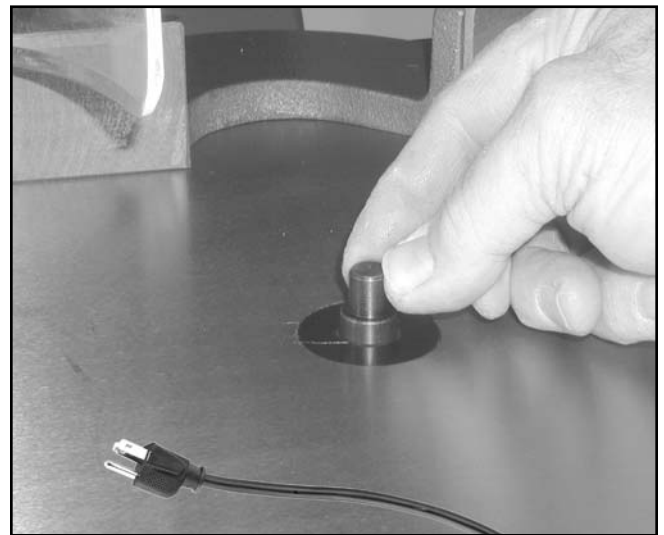

Figure 21. Installing a guide pin.
1. Place the guide pin in its hole in the table as shown in **Figure 21**.